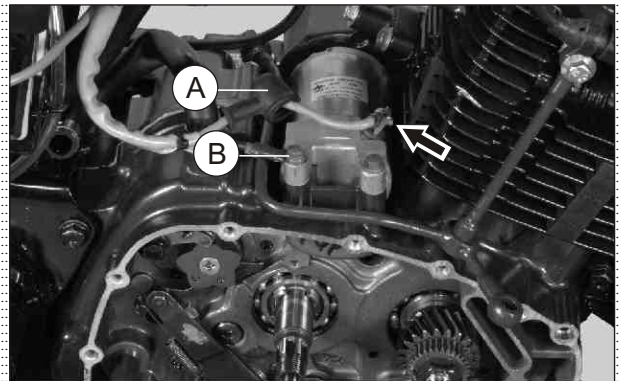

Fig. 3.28
- Dislocate boot (A), remove '+ ve' terminal screw and disconnect the wire from the motor assembly starter. (Fig. 3.28)
- Remove mounting bolt (B) (M6x25 - 1 no) of motor assembly starter motor assembly and disconnect the '- ve' wire. (Fig. 3.28)